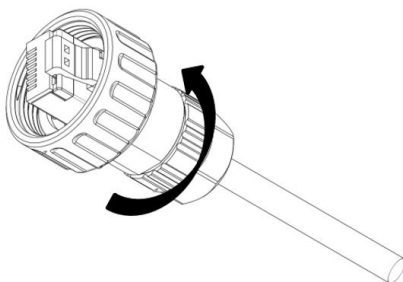

Figure 6-24 Tighten the lock nut
Step 4: Tighten the lock nut with a wrench in the direction shown in the diagram, with a torque of 0.5~0.6N·m, as shown in Figure 6-24.